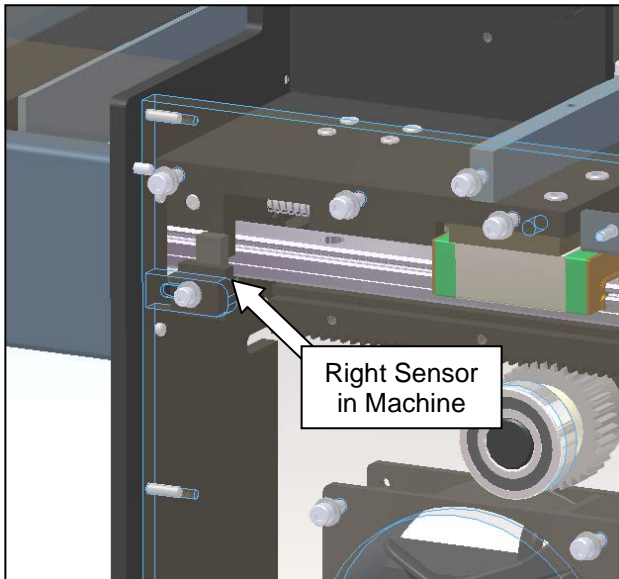

Figure 3-350. Installing the Right Plate Sensor
5. Reinstall the sensor and mounting block into the machine. The sensing area of the sensor is to be oriented to the top of the machine (Figure 3-350).